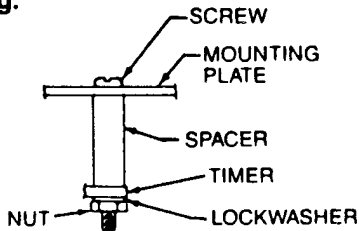

Figure 3 — Mounting Detail
4. Mounting the unit onto the mounting plate, as shown, using the enclosed hardware. (See Figure 3).